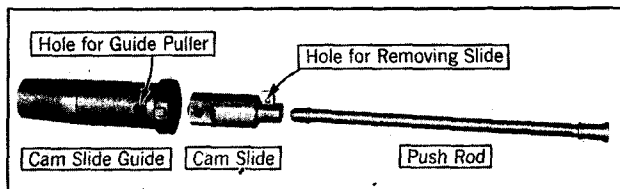

Fig. 32. The cam slides and guides can be removed without taking off the cylinder blocks.
**Cam Slides:** The cam slides (see Fig. 32) are of the same type as on Cadillac 353 and must be